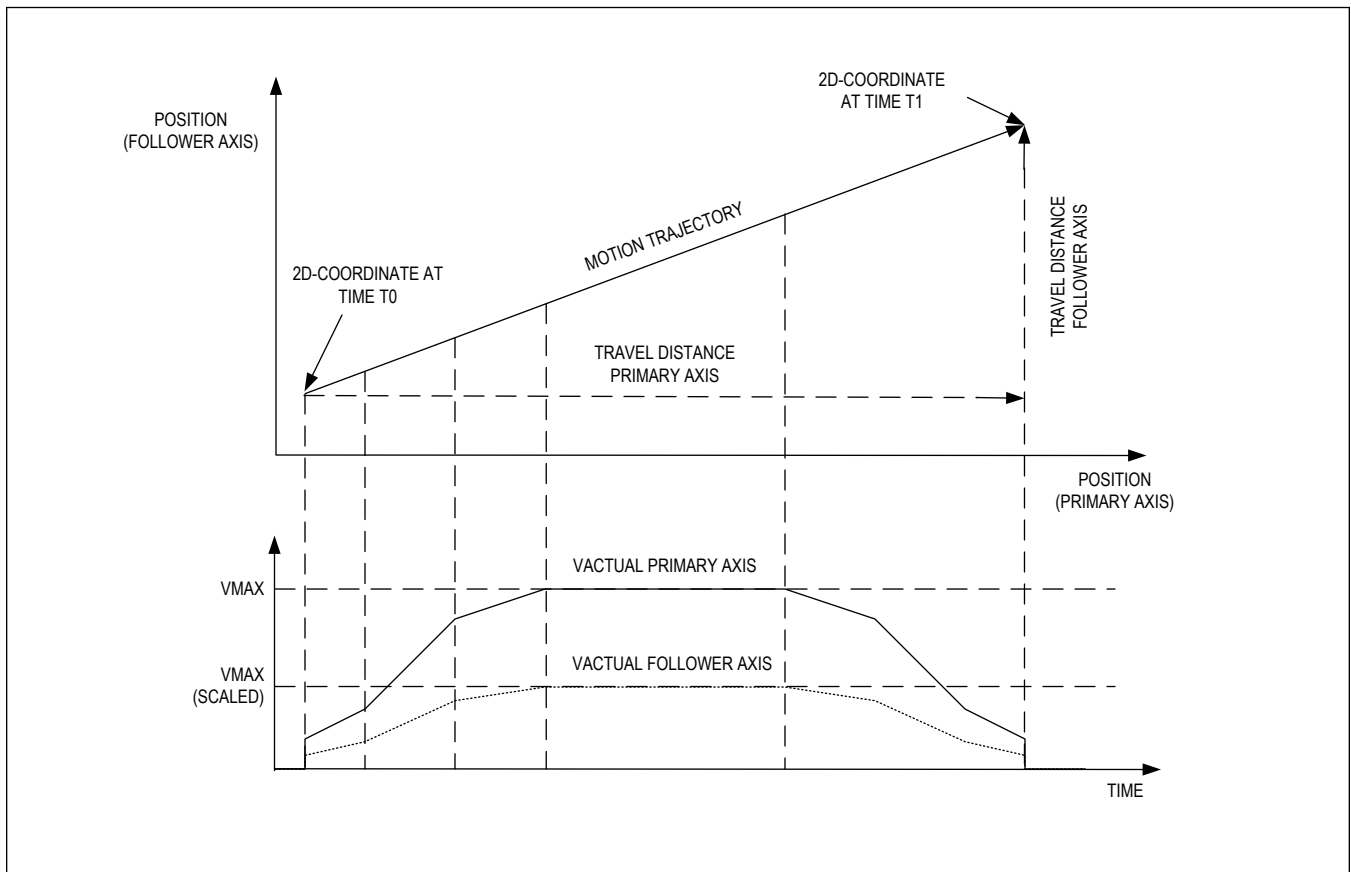
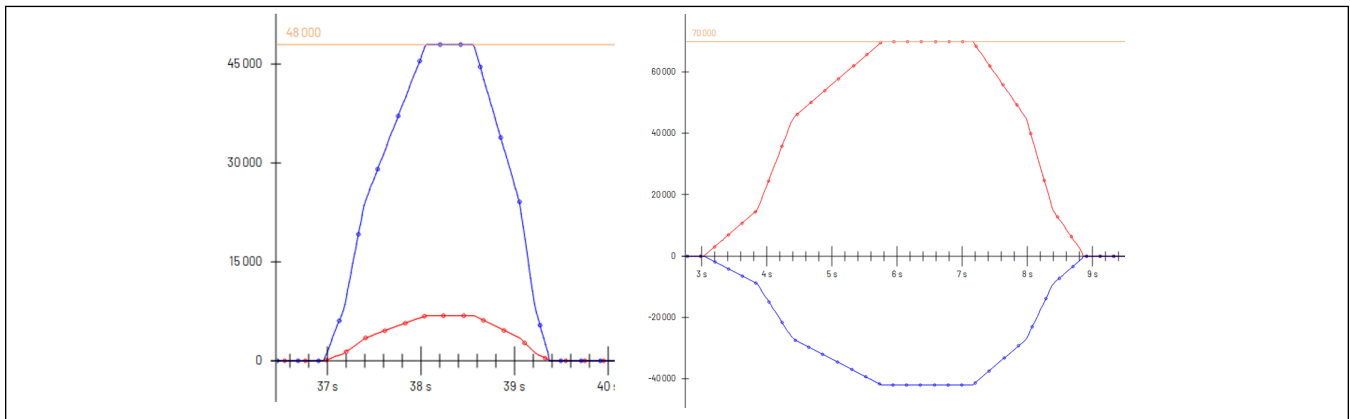

Figure 35. Coordinated Motion of Two Axes
Figure 36. Trace of Two-Axis Motion with Interpolation (Left) Motion in Same Direction (Right) Motion in Opposite Direction
Principle of Operation: The IC automatically selects the axis with the larger displacement as the primary axis and moves it according to the configured set of parameters. To move the second axis synchronously, its velocity is calculated by scaling down the velocity of the primary axis. The scaling internally uses a proportionality factor (PF) with 12-bit resolution and a range between 0 and 1 based on the proportions of the target distances to each other. The followers ramp parameters are not considered, except for its VMAX setting. If the follower's VMAX setting limits the motion velocity, the primary axis' VMAX becomes scaled down so that the follower does not exceed its individual VMAX. This principle is shown in Figure 35 and Figure 36.